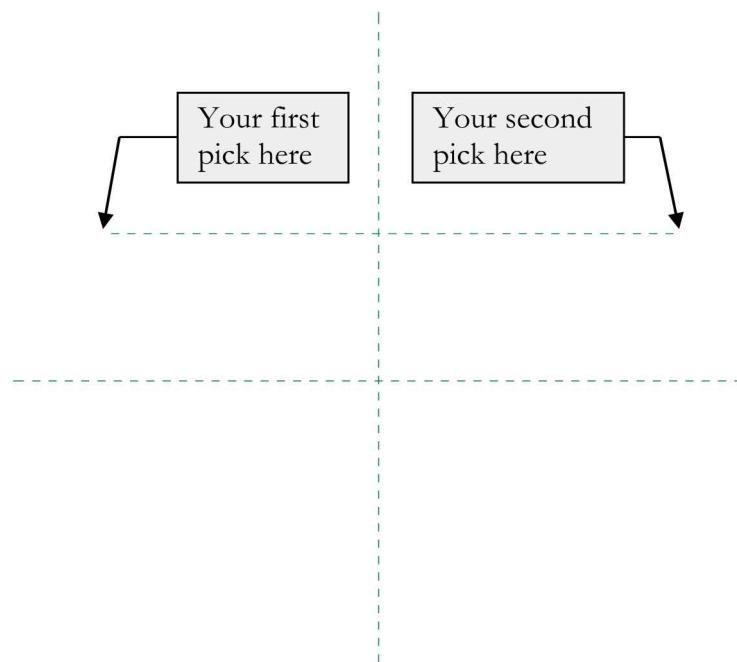

FIGURE 17-2.4 Adding a “horizontal” reference plane
5. Add a horizontal *Reference Plane* as shown in Figure 17-2.4.
The first *Reference Plane* has now been added to the new *Family*. Later in the book, a dimension will be added between the two parallel *Reference Planes* shown in Figure 17-2.4. This dimension can be locked so it does not move, or made to be parametric in which case the end user in the project environment can edit a value in the properties of a selected element, causing the *Reference Plane* to move accordingly.